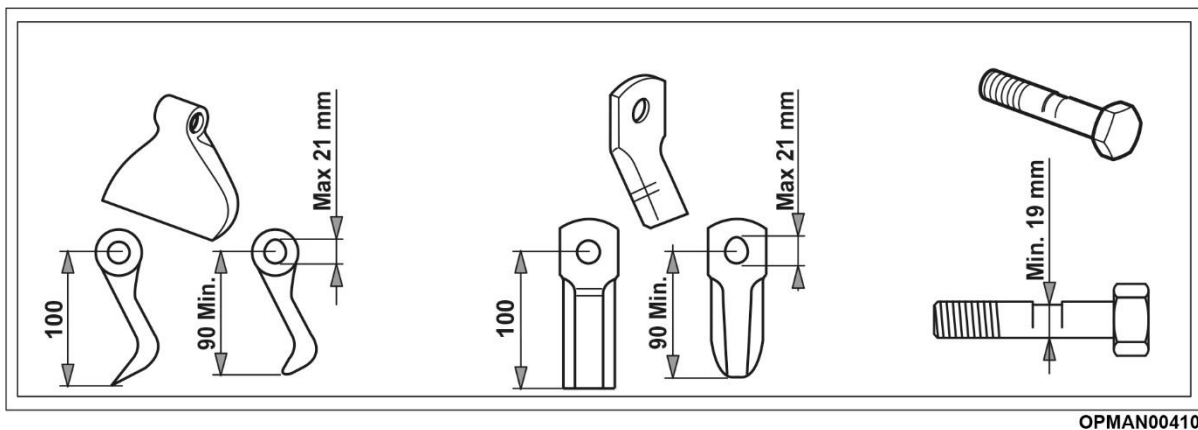

Figure 14
For worn flails and bolts (see Figure 14):
- The special bolts must be replaced to fasten the flails if visibly damaged, bent or ovalized to the limit (see Figure 14).
With reference to Figure 14, operations to be carried out are the following: